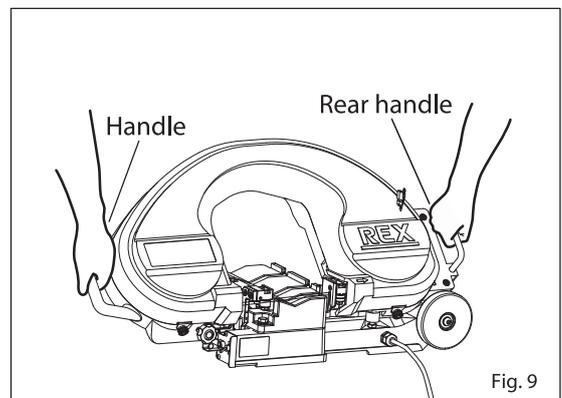

Fig. 9
(2) When moving the unit by carrying it, lift it from both the front and rear handles. DO NOT TRY TO LIFT IT BY YOURSELF. The unit should always be carried by two or more people. (Fig. 9)